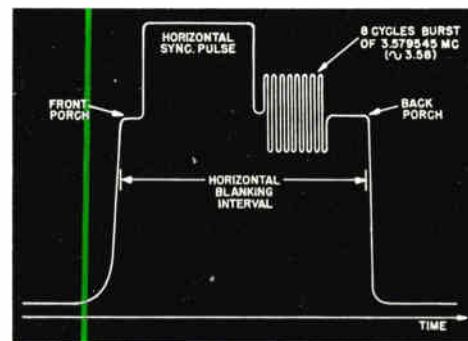

Fig. 1. Location of "burst" signal on back porch of horizontal sync pulse.
5. A reference burst of 3.58 mc is transmitted on the back porch of each horizontal sync pulse, as shown in Fig. 1. This burst of 8 cycles of 3.58 mc provides a synchronizing reference for the color detectors in the receiver.